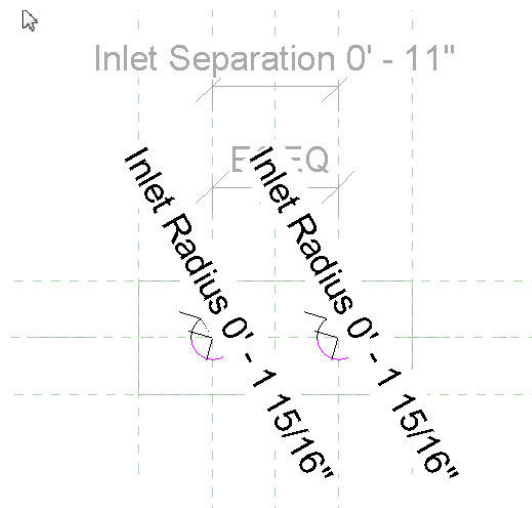

Figure 37. Applying the *Inlet Radius* parameter.
20. Place radius dimensions on each circle, then one by one, assign each dimension the *Inlet Radius* parameter. Your screen should look similar to figure 37.